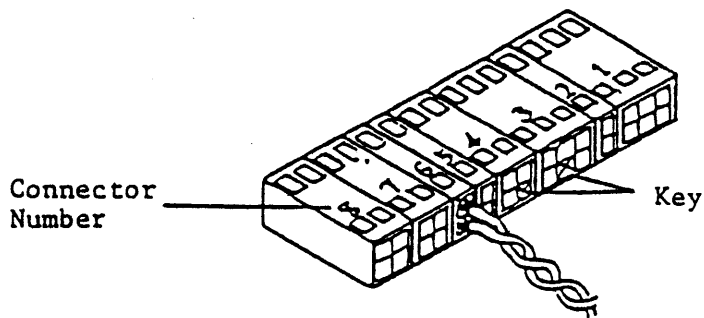

Figure 4.2.2
2. Remove J3 connector housing 6. (Refer to Page 9, figure 4.2.2)
2. Remove J3 connector housing 7. (Refer to page 9, figure 4.2.2)
2. Remove housing 4 from the J3 connector. (See page 9, figure 4.2.2).
7. Take out the screws to the write protect sensor assembly, and as shown in figure 4.2.2, remove the write protect sensor assembly by pushing in the direction indicated.
2. Remove J3 connector housing 8. (See Page 9, figure 4.2.2)